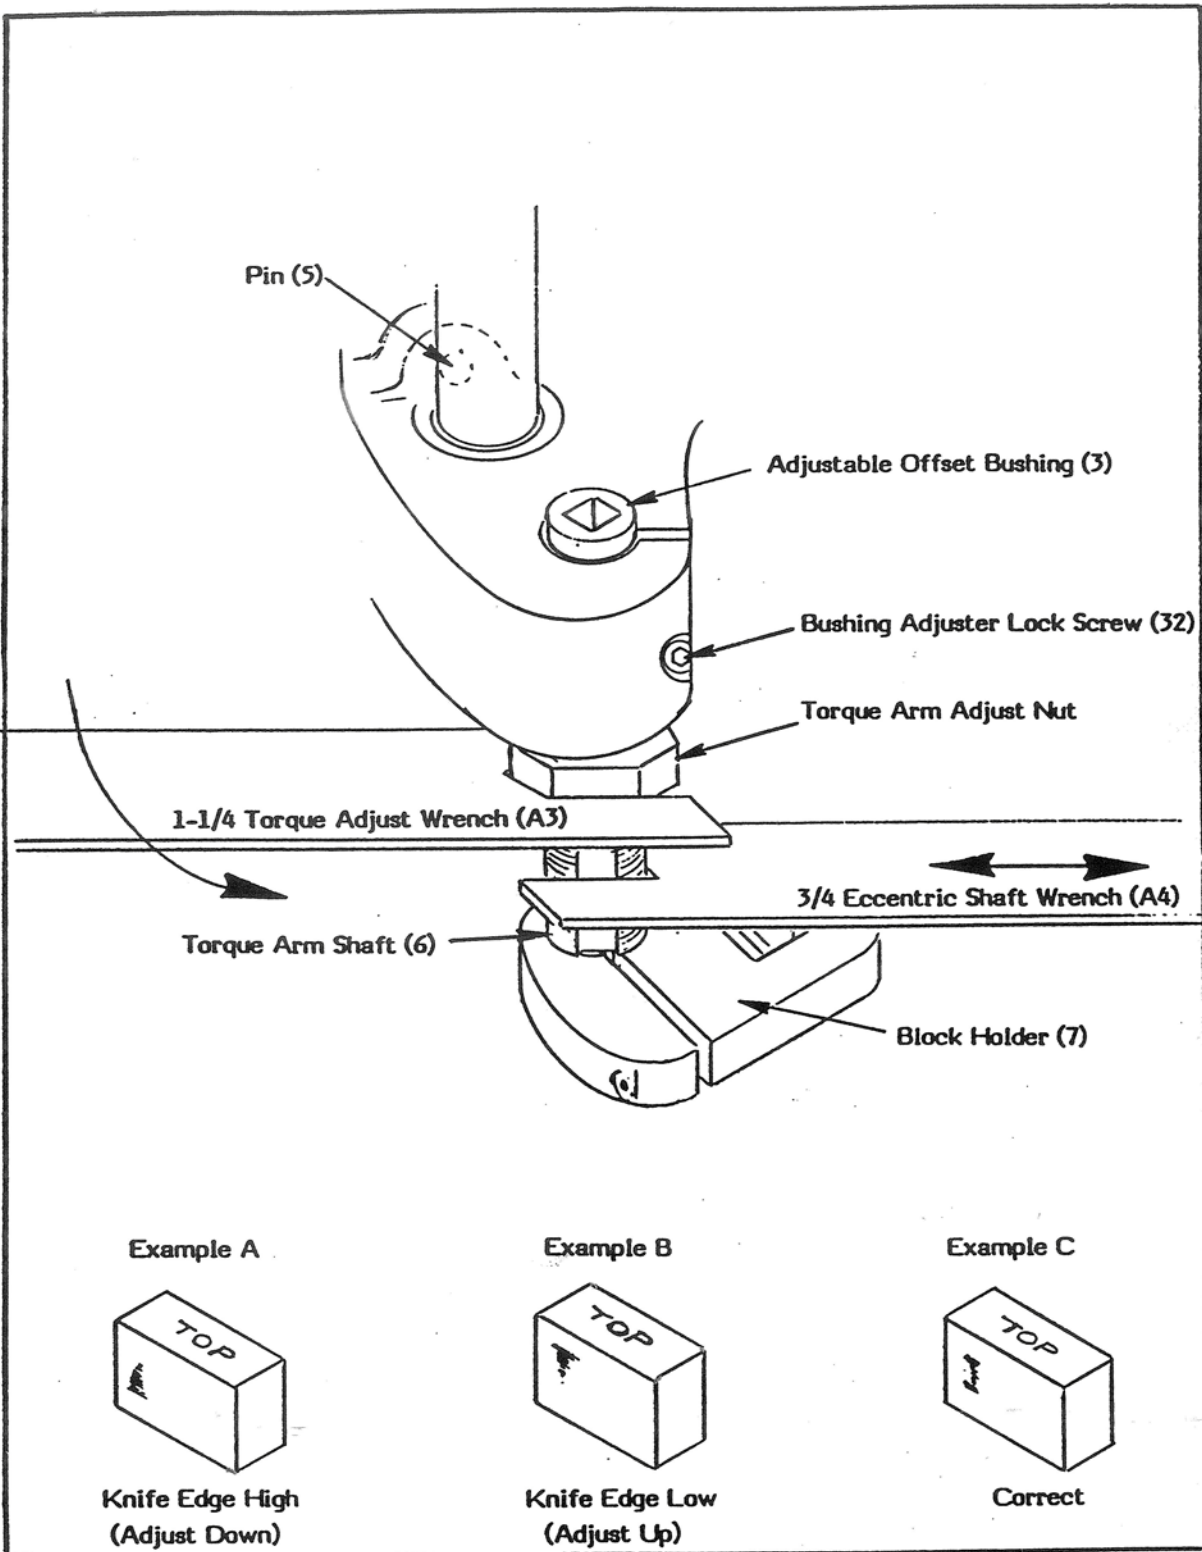

Figure 5 – Adjustment to Correct Trapezoidal Pattern Problems of EP Test Block
5.2.2.8 Precalculated ring block pairs are available as Part No. 206904 with the correction factor already determined. Use of the precalibrated block and ring eliminates the procedures described above in "BLOCK AND RING STANDARDIZING TEST" and "STANDARDIZING BLOCK AND RING" and allows check out of an instrument just as soon as the unit's eccentric bushing is adjusted to fit the blocks wear surface. If necessary, refer to Fig. 5 for adjustment procedure.
Before a test can be run accurately, the machine must be in proper adjustment, as indicated by the rectangular shape in Fig. 5, Ex. C. To test for proper adjustment (or to do a standard test) proceed through the following steps. If alignment is a problem, go to *BLOCK ALIGNMENT*.
- 5.3.1.11 Observe scar left on block by ring. Refer to Fig.5. Proper alignment of the test block in the holder will be indicated by the appearance of a rectangular scar on the test block (Fig. 5 Ex. C). An improper alignment will be indicated by the appearance of a triangular or trapezoidal shape, (Fig. 5, Ex. A & B). If alignment is proper, proceed to Section C.
- 5.3.2.2 Depending on the shape of the triangle or trapezoid, adjust block holder either upward or downward. If trapezoid appears larger on top than on bottom (Fig. 5, Ex. A), holder must be adjusted downward.
- 5.3.2.4 Place 3/4" eccentric shaft wrench (A4) on threaded shaft flat and place 1-1/4" torque adjust wrench (A3) on torque bushing adjusting nut. Tighten nut pulling eccentric shaft downward in increments of .005 inch (.13 mm) to .010 inch (.25 mm)(1/12 to 1/6 turn) until a rectangular pattern is obtained. If the pattern changes as shown in Fig. 5, Ex. B, Refer to Step 5.3.2.7 below.
- 5.3.2.7 If the trapezoid appears smaller on top than on the bottom (Fig. 5, Ex. B), loosen bushing adjuster lock screw and loosen the adjusting nut one revolution (1/16 inch (1.5 mm)).
- 7.5.11 Adjust cam elevation as described in Fig. 5 and *BLOCK ALIGNMENT*.